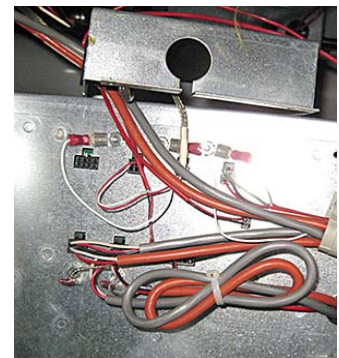

Figure 37
34. Carefully position the cover to rest on the top of the ATO box to expose the ATO connections (see Figure 37).